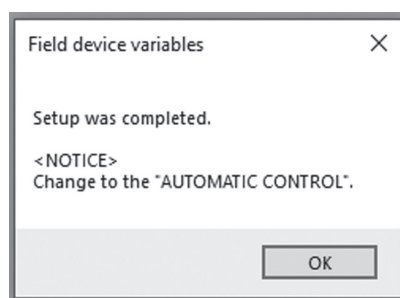

Fig.32
- ⑦ Click "OK" to change the settings to the inputted values, and then click the "OK" button in the displayed message box (Fig. 32) to complete the setting process.